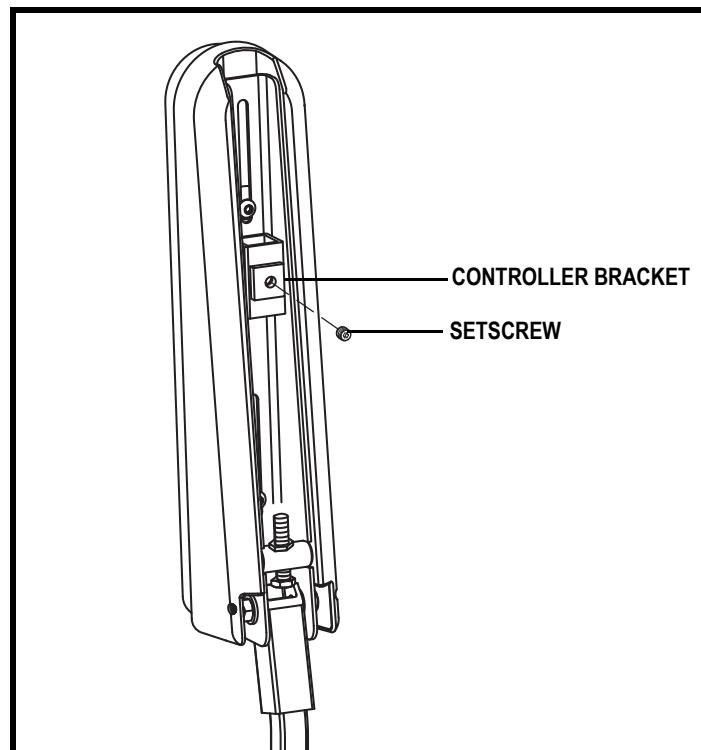

Figure 19. Underside of Armrest
2. Loosen the setscrew on the controller bracket. See **figure 19**.